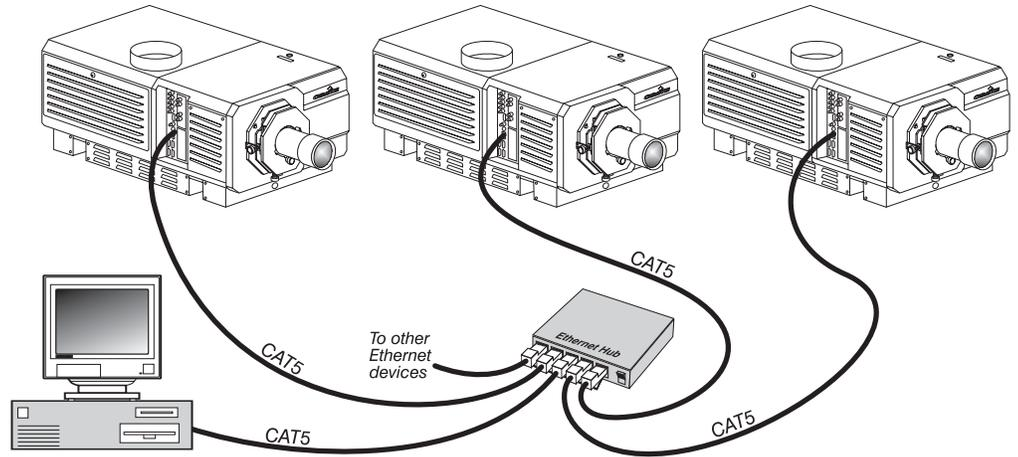

Figure 2.35. Typical Ethernet Network
**ETHERNET NETWORK SETUP:** To add one or more projectors to an Ethernet network, use standard CAT5 cable to connect each projector’s Ethernet port to a hub belonging to the network. A controller or PC must also be connected to the hub. See Figure 2.35.